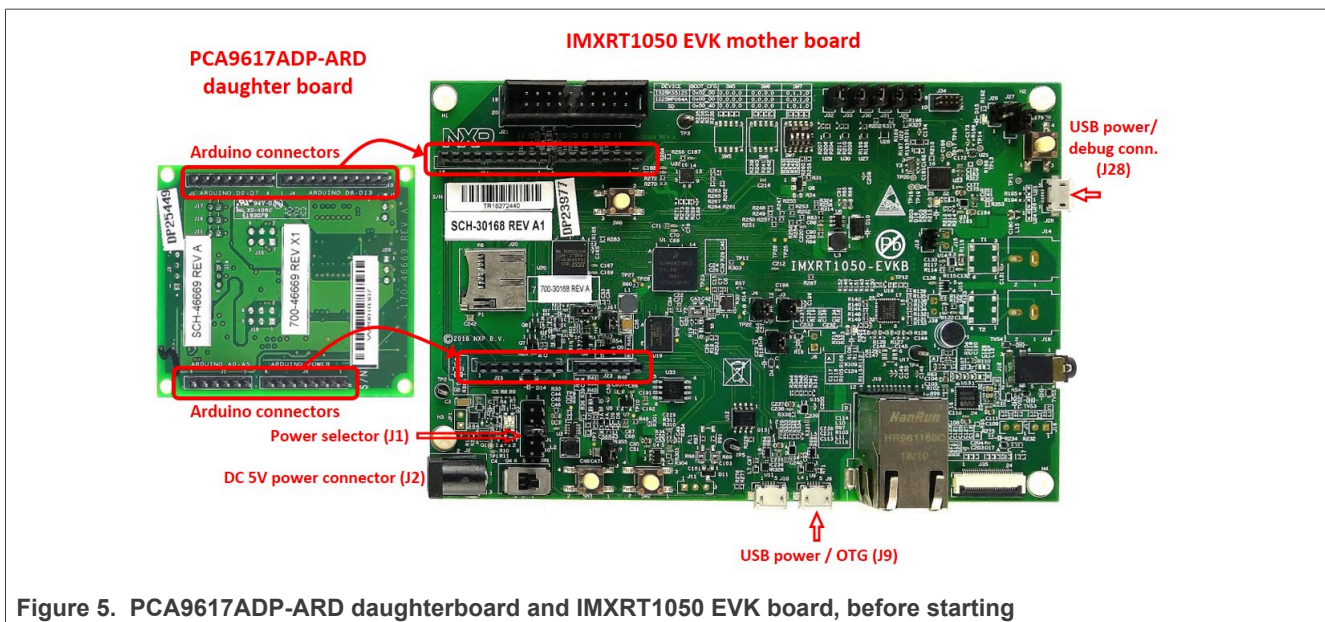

Figure 5. PCA9617ADP-ARD daughterboard and IMXRT1050 EVK board, before starting
Figure 5 shows the required hardware for operation of the PCA9617ADP-ARD daughterboard with IMXRT1050 EVK. The following items are necessary:
From J1 on the EVK board (see Figure 5) the user can select the power configuration for the motherboard. For further details, see the i.MX RT1050 Processor Reference Manual i.MX RT1050 Processor Reference Manual.
2. Insert the PCA9617ADP-ARD daughterboard on the Arduino connector of the EVK (see Figure 5).
Figure 5 shows the boards during the operation.